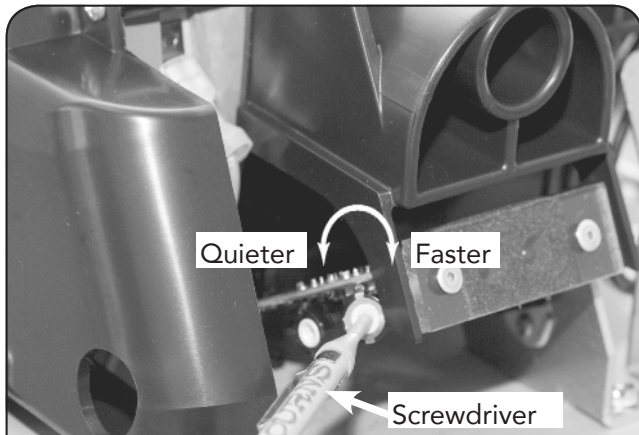

FIGURE 2 - ADJUSTING SOUND & SPEED
6. **Adjusting Sound & Speed** - The dryer is shipped set at maximum speed. Using a small flat blade screwdriver, CAREFULLY turn the SPEED pot COUNTERCLOCKWISE 3/4 TURN MAX. to REDUCE SOUND & SPEED. CAREFULLY turn CLOCKWISE to INCREASE SOUND & SPEED. See Figure 2.